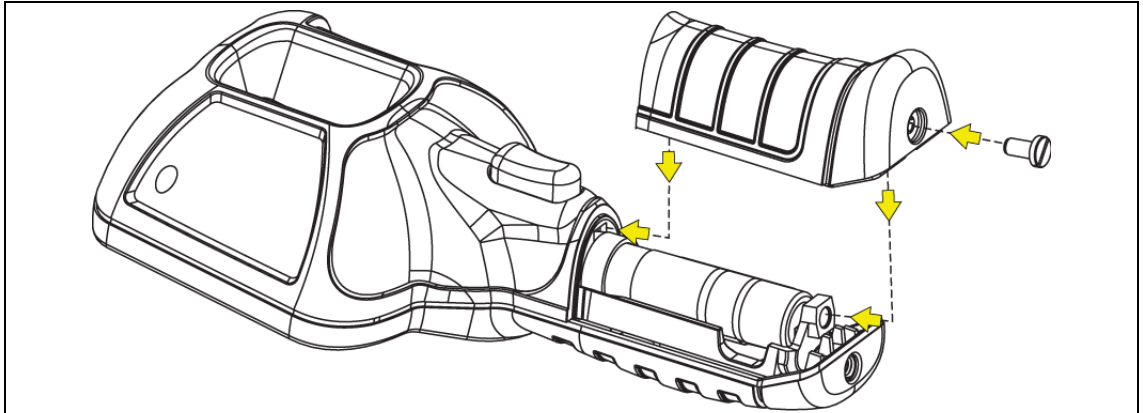

Figure 10-6
5. Install the battery cover. Press down until the locking tabs secure the cover (Figure 10-6).